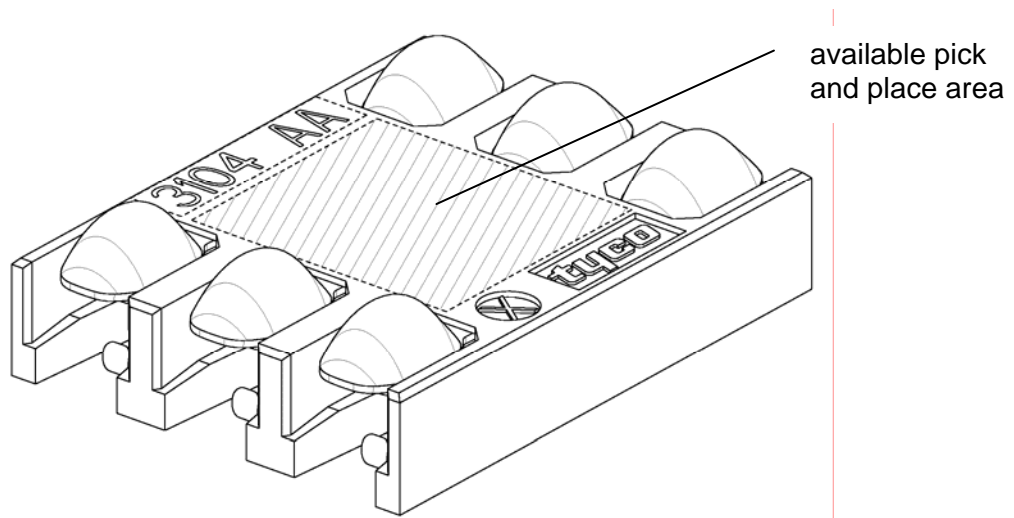

Figure 6.
- B. Area for vacuum P&P is located on the connector mating surface. Minimum available area is 4,5 mm x 5,0 mm. See figure 6 and customer drawing C-1705300.